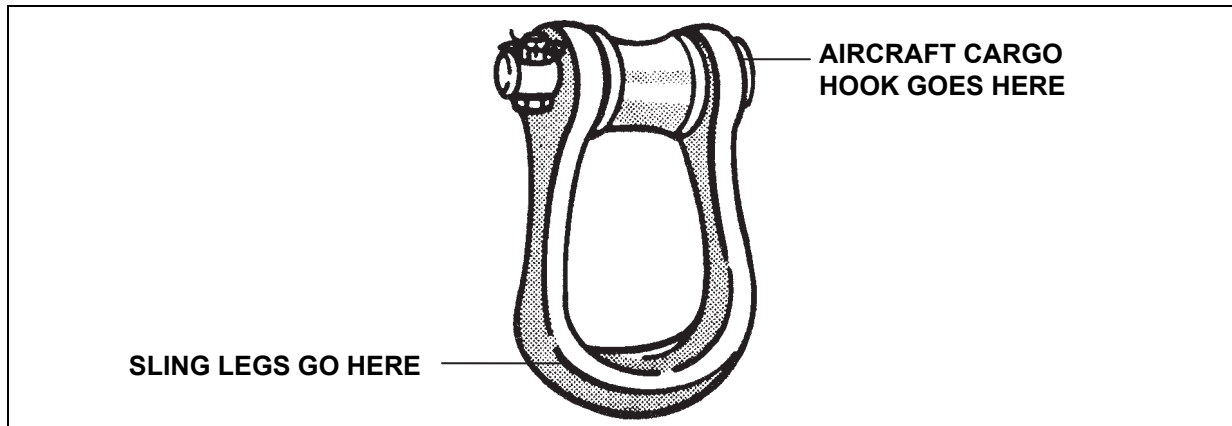

Figure 6-2. Apex Fitting Components
- **Apex Fitting.** The metal apex fitting (figure 6-2) gathers the sling legs and attaches the sling set to the helicopter hook. Each apex fitting consists of a clevis, pin, spacer, and castellated nut and cotter pin. The 10,000-pound capacity clevis is made of aluminum and uses a 1 1/8-inch diameter pin. The 25,000-pound capacity clevis is made of alloy steel and is fitted with a 1 1/2-inch diameter pin.